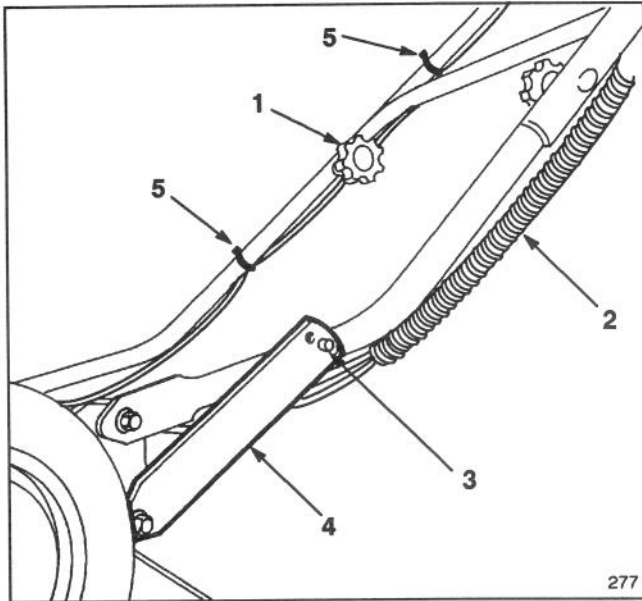

Figure 1
1. Align handles and tighten handle knobs (Fig. 1). Bend handle latches slightly toward each other (Fig. 1).
2. Pivot handle backward until handle stud snaps into center hole of handle latch (Figs. 1). If handle height is not satisfactory, adjust by placing handle stud into a different hole. Secure control cables in position with cable ties.